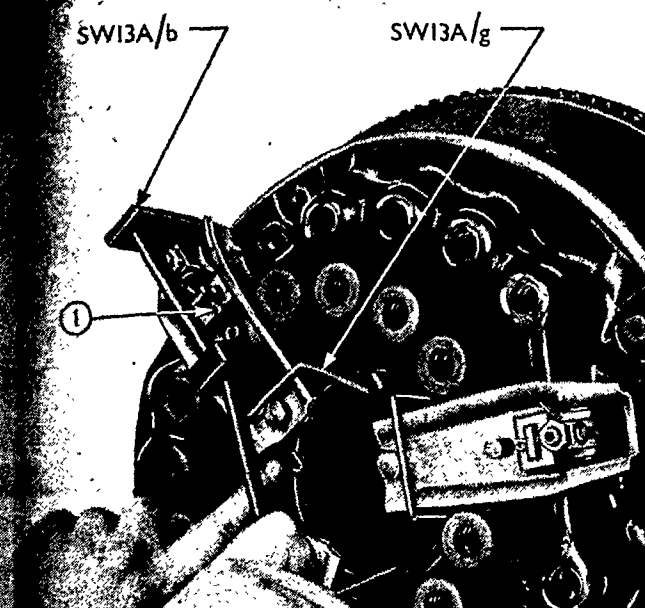

Figure 48
5. Remove the cotter pin, Figure 48, and extract the shims and release lever retaining clip from each release lever fulcrum bracket.
17. Remove the pillar spacer and gauge finger assembly, then, while the clutch is still attached to the tool, attach hold-down clips, Figure 48, to the release levers.